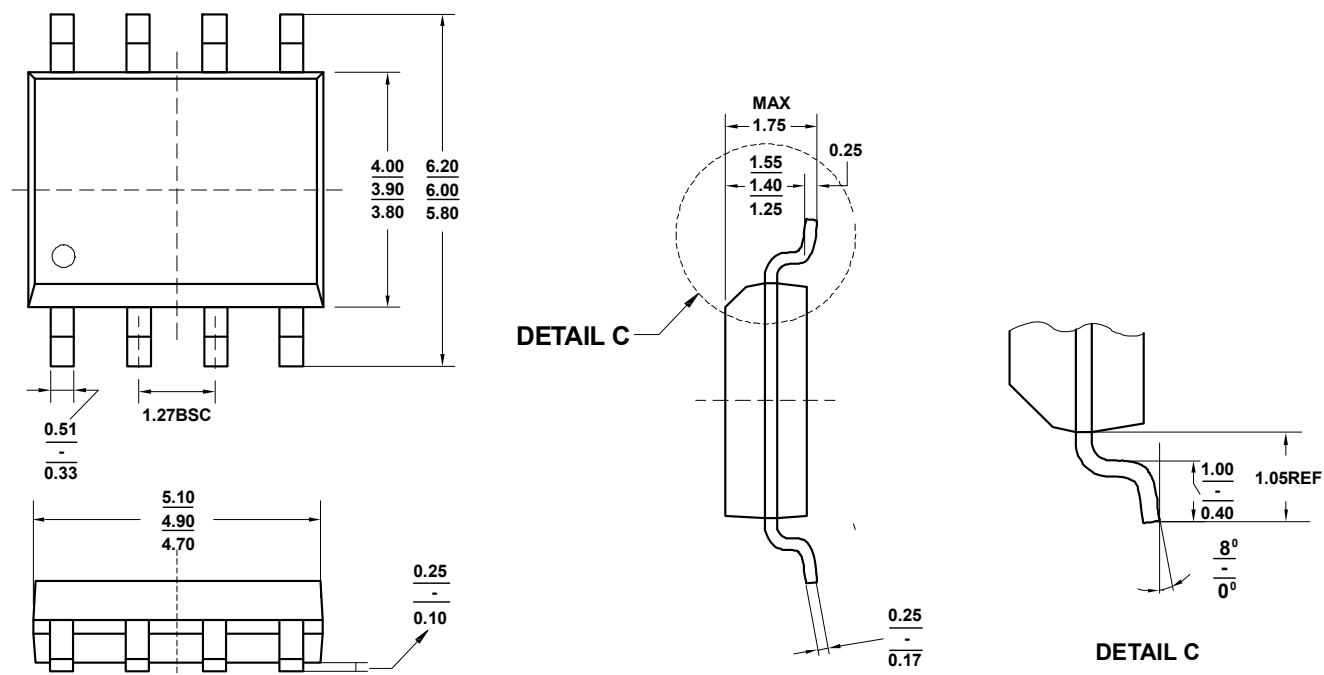
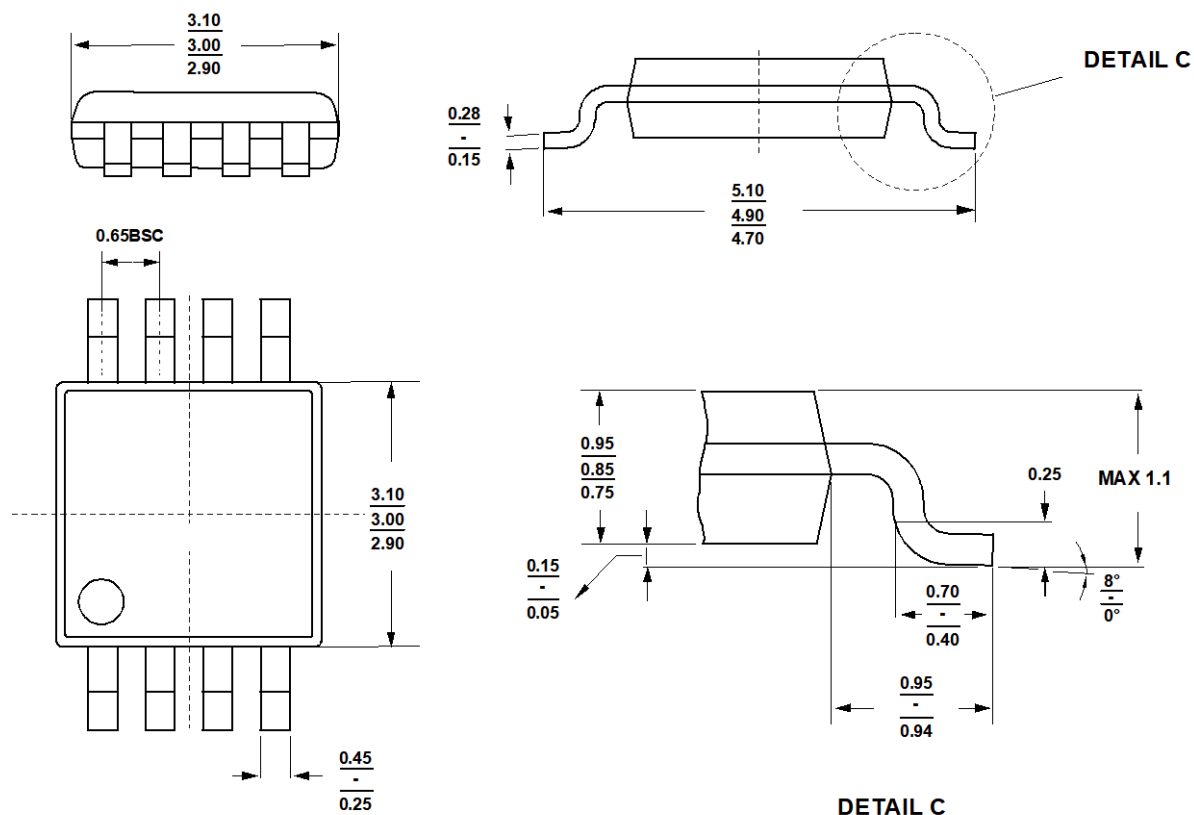

Figure 46. 8-Lead SOIC Package Dimensions shown in millimeters
Figure 47. 8-Lead MSOP Package Dimensions shown in millimeters
- Place the external components as close to the device as possible. As illustrated in Figure 46, Figure 47, **错误!未找到引用源。** and **错误!未找到引用源。**, keeping R_F , R_G and C_F close to the inverting input minimizes parasitic capacitance.